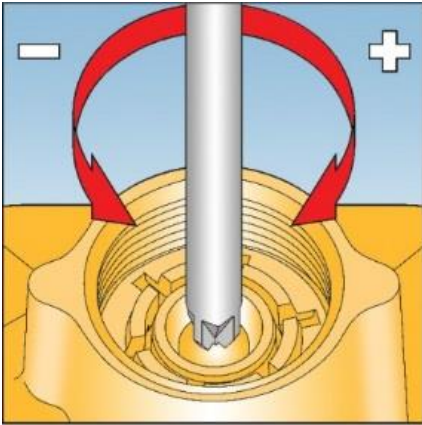

Fig. 8
8. If UPSS fitted, insert a pozidriv screwdriver (No.2 point) into UPSS adjusting screw in bottom spring holder. See Fig. 8.
23. Slowly turn UPSS adjusting screw clockwise (+) until UPSS device trips off. See Fig. 8.